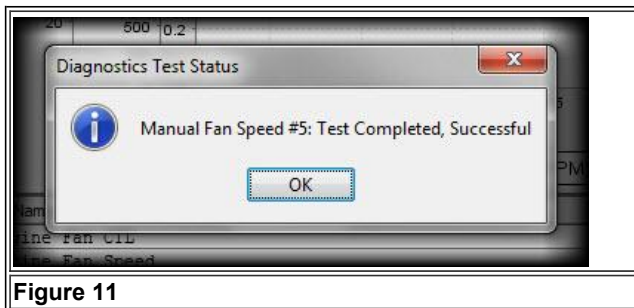

Figure 11
5. The "Test Completed, Successful" (*Figure 11*) window at the conclusion of the test does not indicate the fan has passed. It only indicates the test has been completed successfully. You will need to determine if the fan has passed or failed.